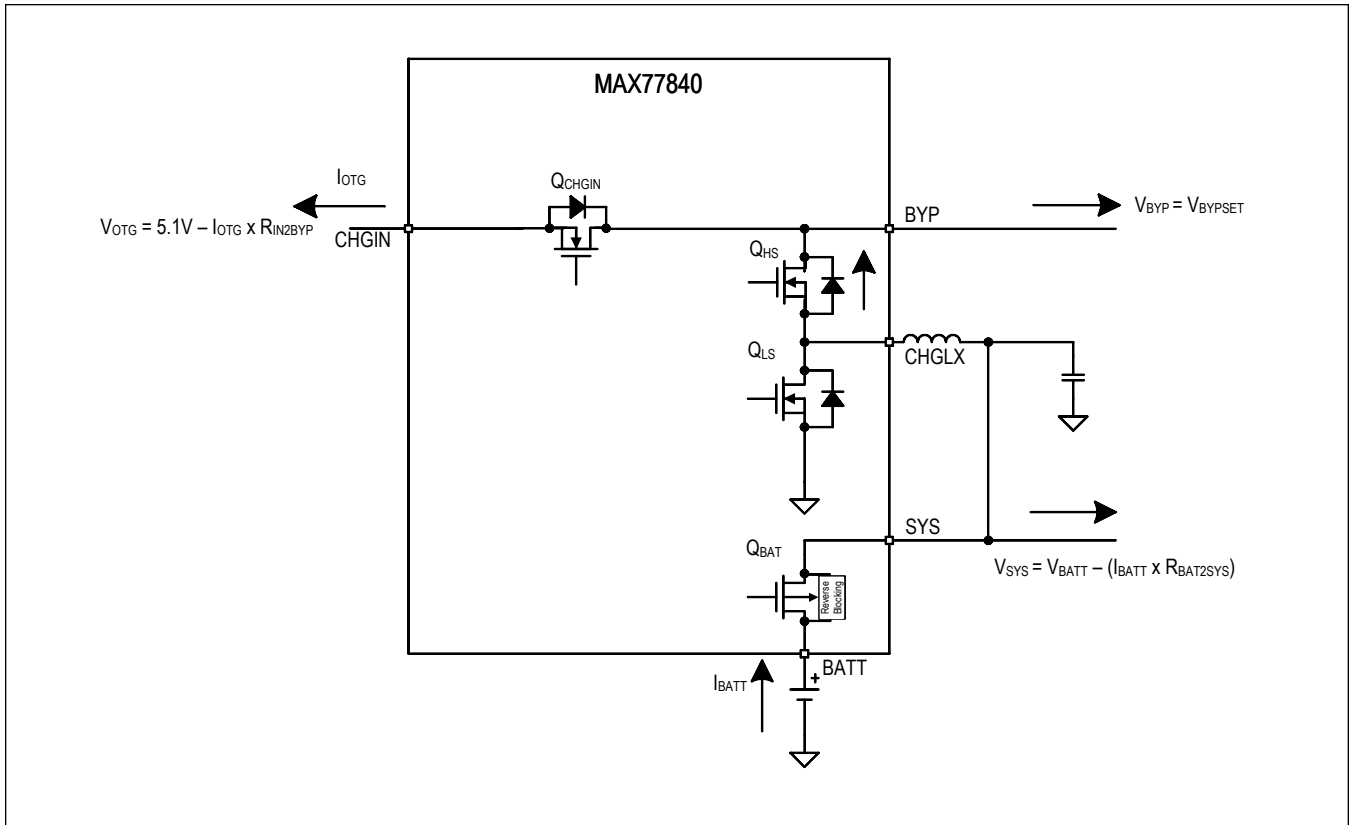

Figure 6. Battery-Boost (OTG)
4. BATTERY-BOOST (OTG), MODE = 0x0A: OTG is active ($Q_{CHGIN} = \text{on}$). Battery is connected to support SYS and OTG loads ($Q_{BAT} = \text{on}$), and charger is operating in Boost mode (Boost = on), see Figure 6.